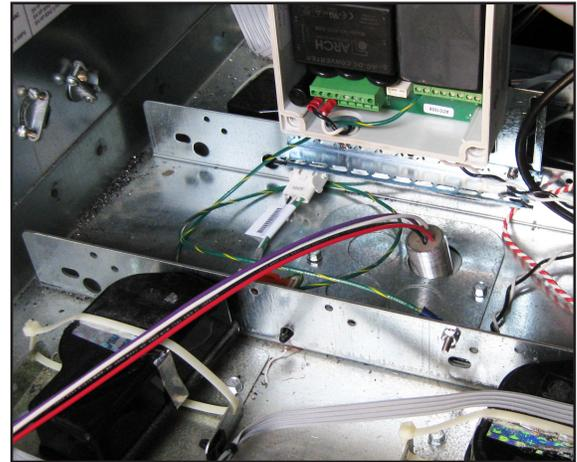

Figure 9: Potted Nipple in Position
20. Pull top of potted nipple assembly through the bottom of the electrical enclosure as shown in Figure 9.